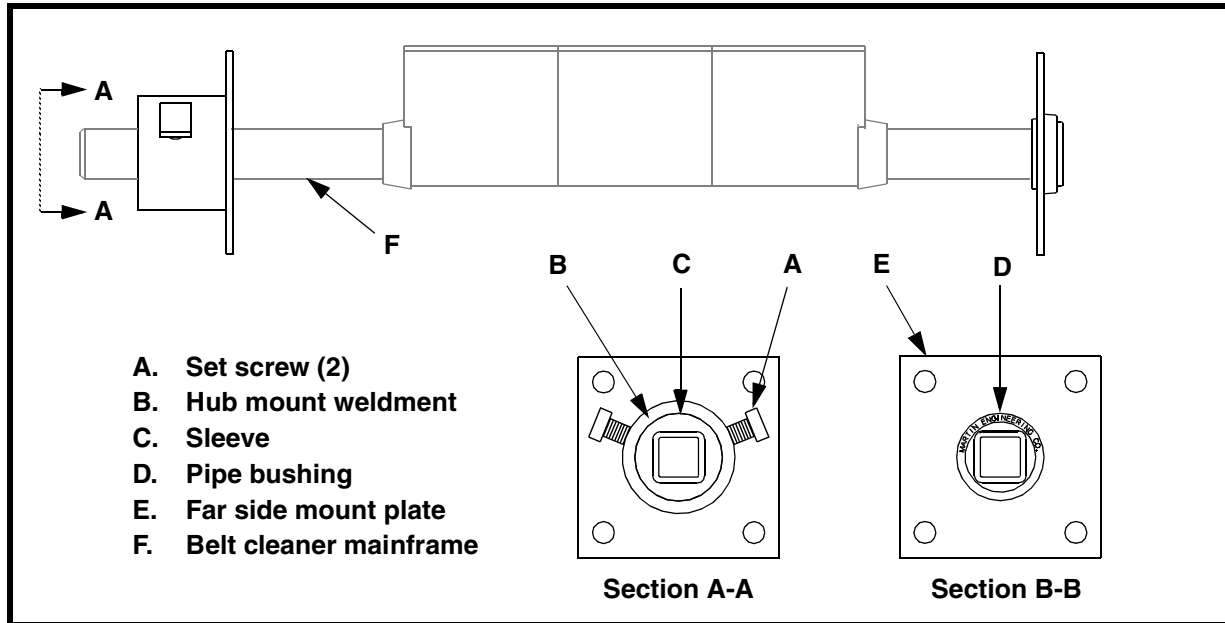

Figure 4. Hub Mount Tensioner Installation
- (1) Drill or cut one 2-1/8-in. (54-mm) mainframe hole in operator side chute wall, and one 1-3/4-in. (44-mm) mainframe hole in far side chute wall. Remove burrs and sharp edges.
- (2) For Hub Mount Tensioner (Figure 4), loosen two set screws (A) on hub mount weldment (B), and remove sleeve (C). Remove pipe bushing (D) from far side mount plate (E). Use a mallet to pound off the pipe bushing.
- (3) For Internal Spring Tensioner (Figure 4), remove tensioner bearing (D) and O-ring (E) from internal mount weldment (C). Remove pipe bushing (F) from far side mount plate (G). Use a mallet to pound off the tensioner bearing and pipe bushing.
- (4) Position each mounting plate over hole, and weld onto wall. Make continuous weld around entire mounting plate.
- (5) For Hub Mount Tensioner (Figure 4), push sleeve (C) into hub mount weldment (B). Snap pipe bushing (D) into far side mount plate (E).
1. Insert belt cleaner assembly into pipe bushing (D, Figure 4) in far side mount plate (E), then into sleeve (C) in hub mount weldment (B).
3. Turn belt cleaner mainframe (F, Figure 4) until blades are touching belt. Tighten hub according to Table III.
4. Tighten two set screws (A) on hub mount weldment (B).